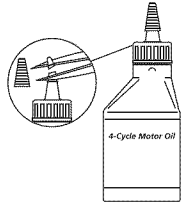

Fig. 4
This unit is supplied with one 2.03 fl.oz. (60 ml) bottle of SAE 30 SF, SG, SH oil (Fig. 4).
1. Unscrew the top of the bottle of oil and remove the paper seal covering the opening. Replace the top and cut the tip off the funnel spout (Fig. 4).